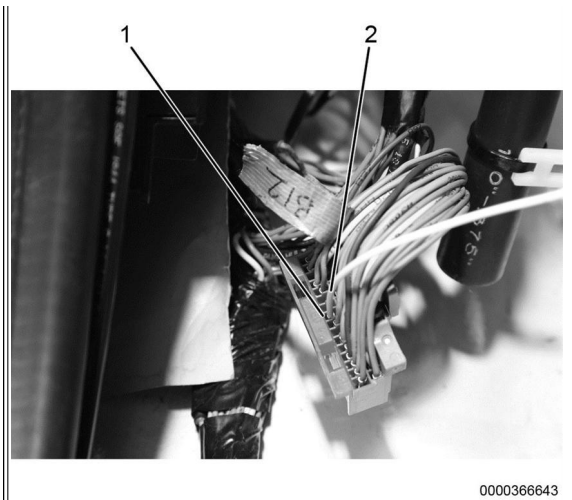

Figure 4: Cavity B9.
14. Populate the terminated side of the kit-supplied wire (Figure 4, Item 2) into cavity B9 (Figure 4, Item 1) of the connector.